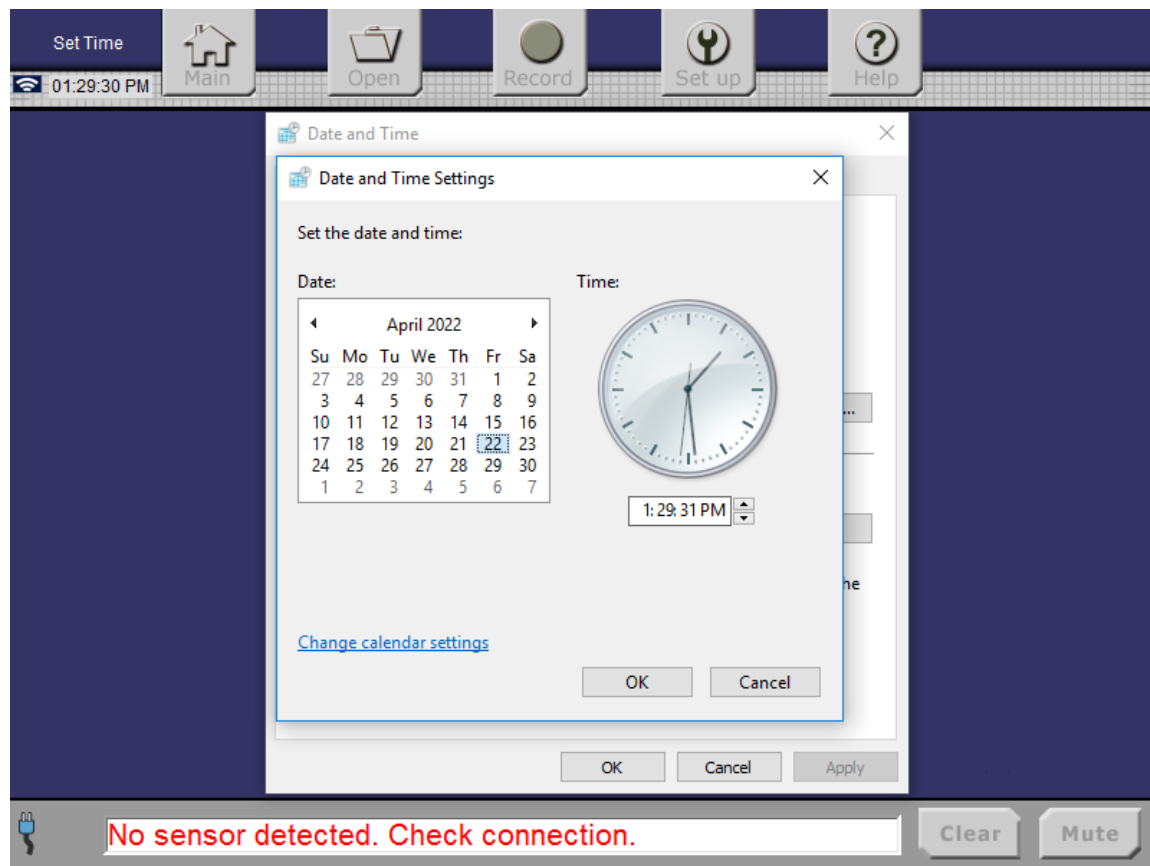

Figure 19. Set Up Current Time Screen
5. The **Set Up Current Time** screen appears, as shown in Figure 19. Tap the arrows to scroll to the current time.